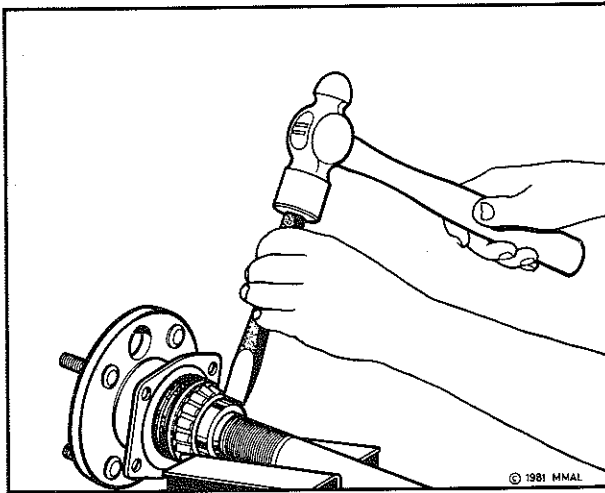

Fig. 7—Loosening bearing retainer collar
- (1) Loosen the bearing retainer collar with 4 deep chisel cuts, refer to Fig. 7.